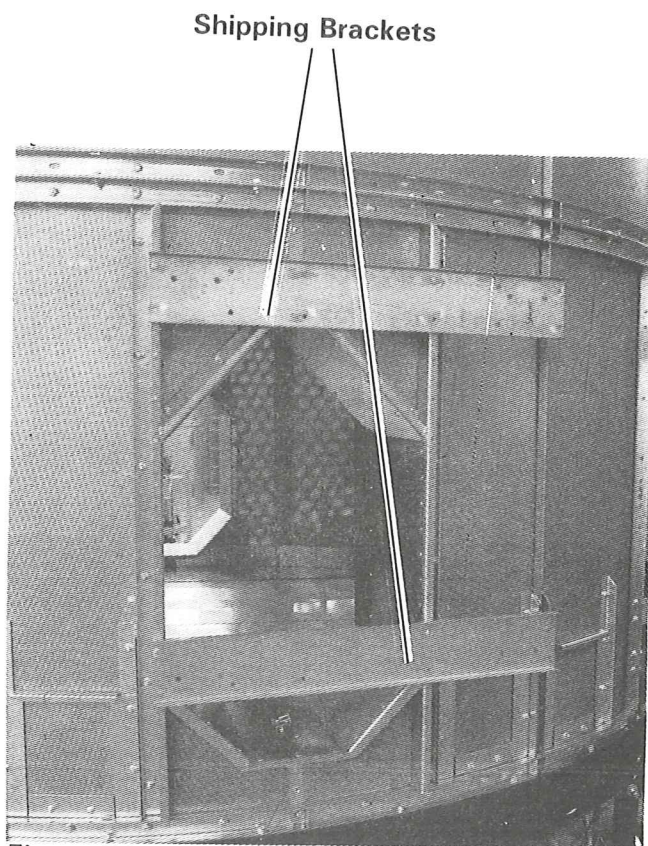

Figure 31 - Cool Fan Housing with Remote Cabinet Transport Brackets
2. Attach (2) Remote Cabinet Stands #1280323 to back of remote cabinet. Use (4) 5/16" (7.9mm.) bolts and nuts used to hold cabinet to shipping brackets during delivery. See Figure 31.